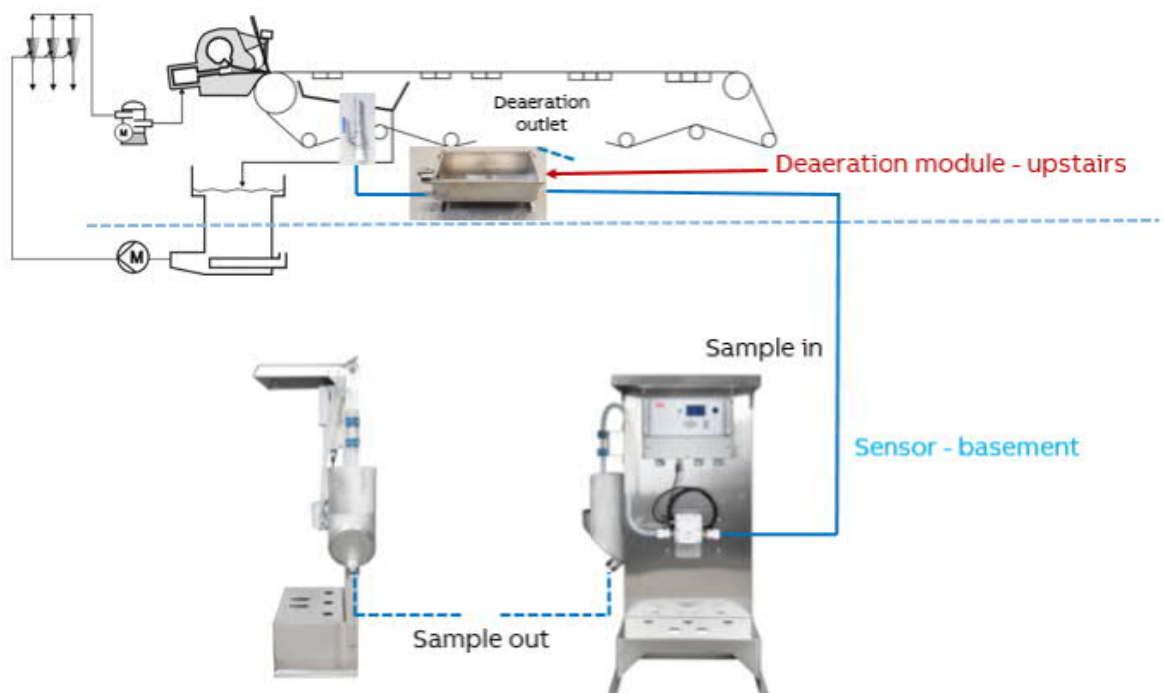

Figure 21. Installation of white water sensor without sample pump into the process.
- If hydrostatic pressure (about 5 - 6 meters, 16-20 ft) is utilized to provide sufficient sample flow → install deaeration module upstairs close to sample valve, little bit lower than sample valve (figure 21).